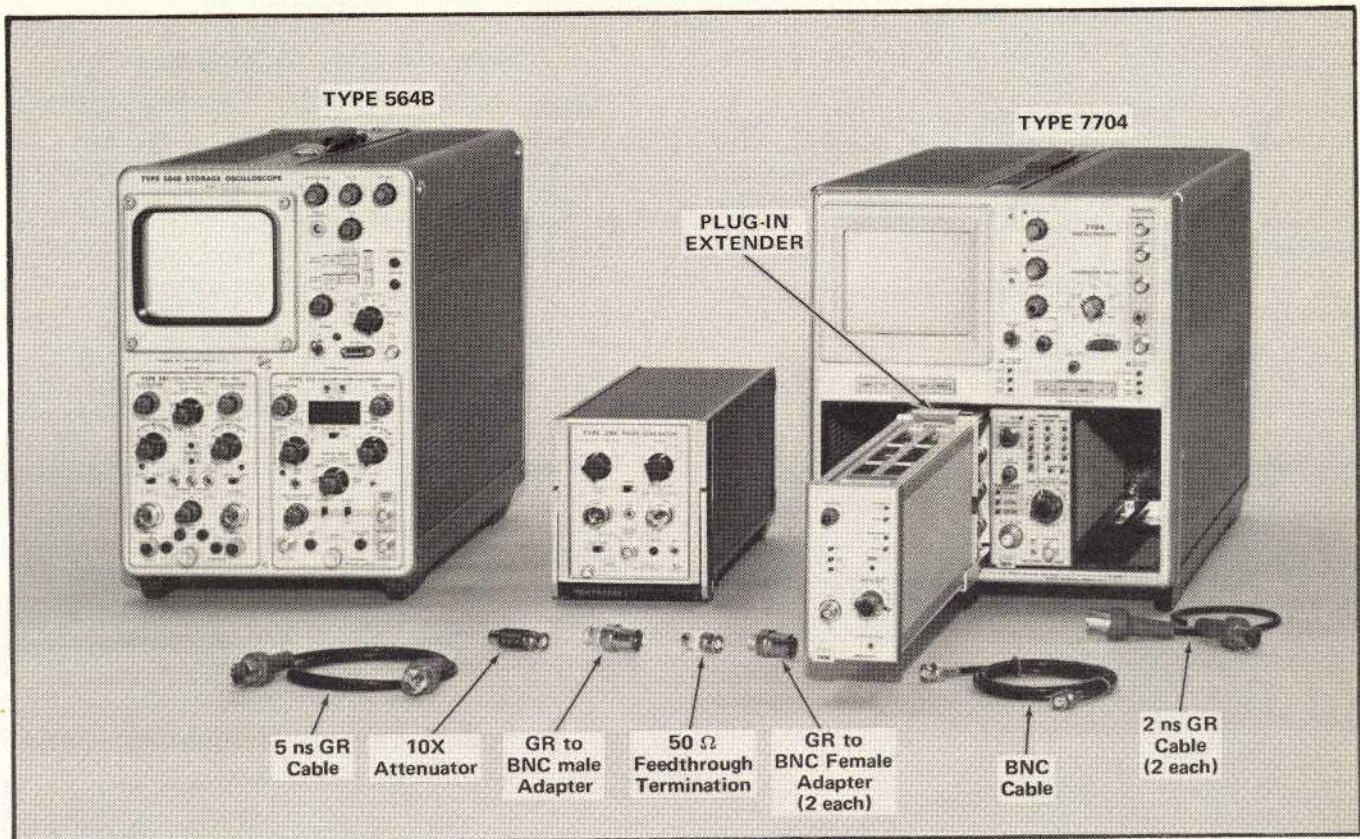

Fig. 5-3. Test equipment required for steps 15, 16 and 17.
- Test equipment required is shown in Fig. 5-3.